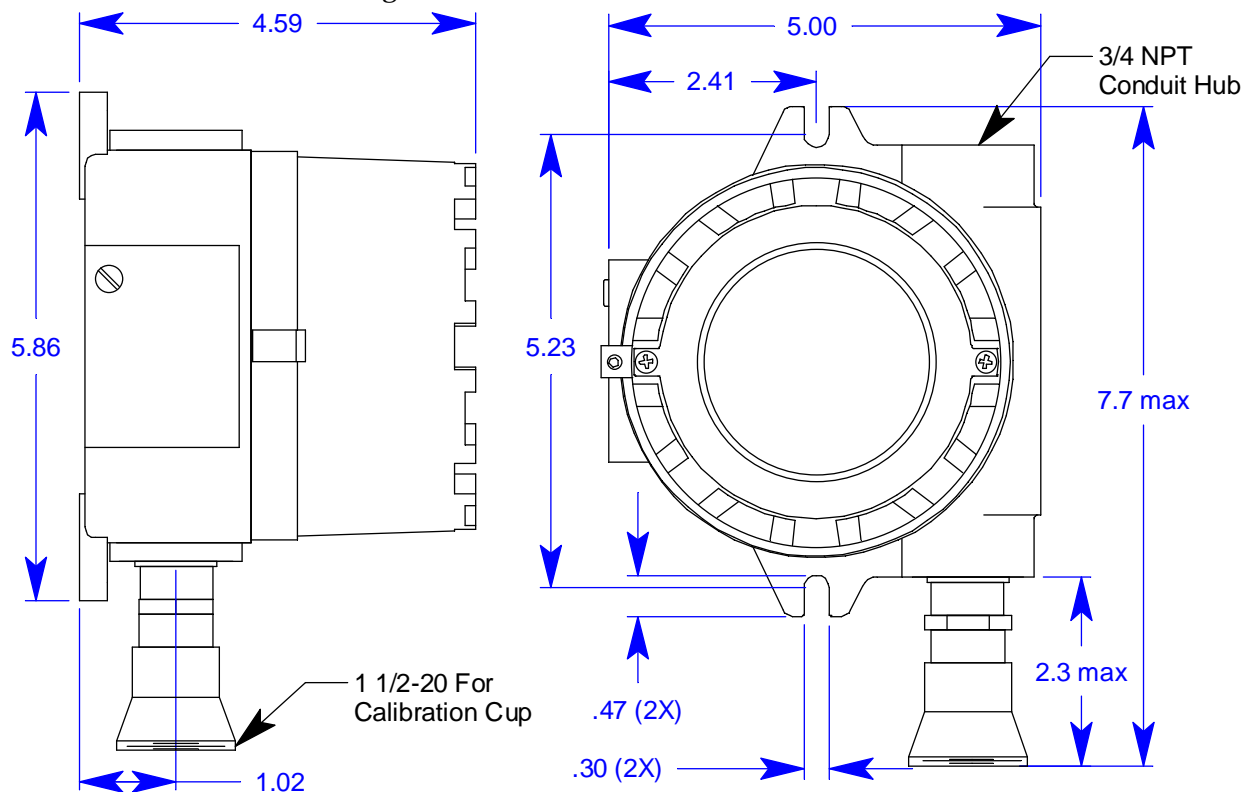

Figure 3: Outline & Mounting Dimensions, LEL
2. At the monitoring site, use #10 screws through the junction box's two mounting holes to secure the junction box to a vertical surface. Figure 3 shows the outline and mounting dimensions of the M2. Mount the M2 with the detector facing down as shown in Figure 3.